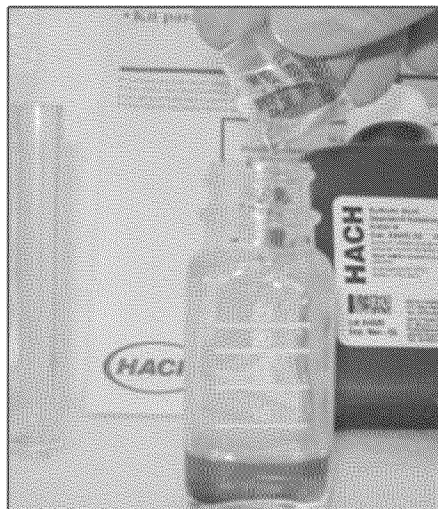

Figure 8. Adding Phenolphthalein indicator to a Mixing Bottle
- (1) For the High Range Test:
- (2) For the Low Range Test:
- b Tear open a Phenolphthalein indicator pillow and add it to the mixing bottle as shown in Figure 8.